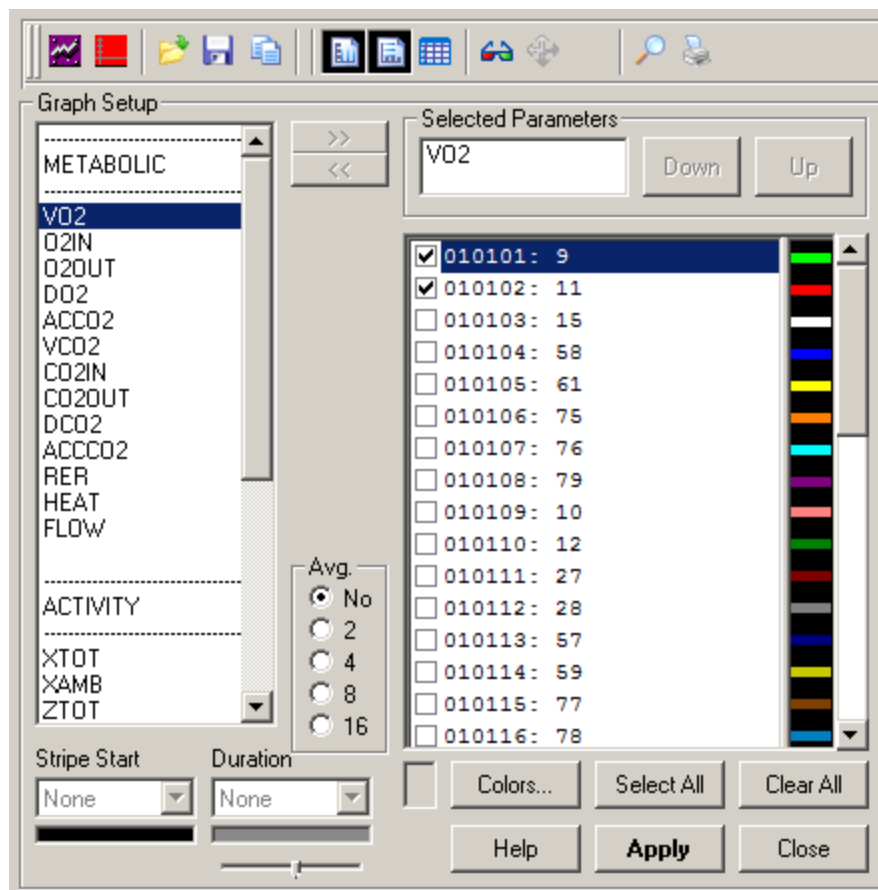
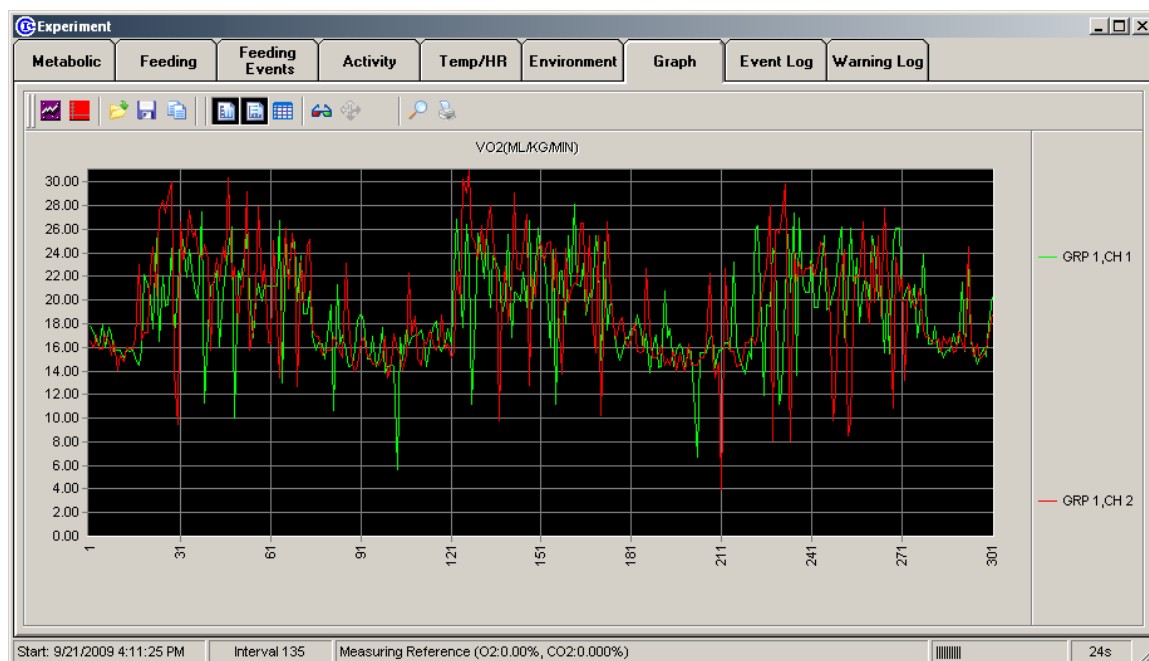

Figure 52 - Graph Setup Panel
Figure 53 - Example Data Graph
2. To select data for display, click the left-most icon in the toolbar above the blank frame. When the mouse cursor rests above the icon, a tool-tip will appear that reads “Select Data”. The “Graph Setup” panel will appear as in Figure 52.
5. Click “Apply” to generate a plot featuring the selected subjects and measurements. Figure 53 shows a plot based on the parameters selected in Figure 52.